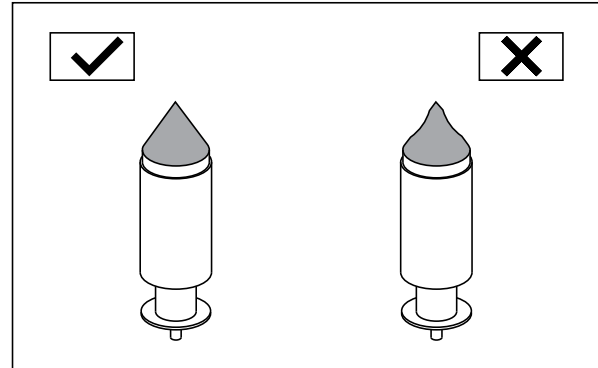

Fig. 4.32
- If the float needle is worn-out as shown (Fig. 4.32), replace it with a new one.